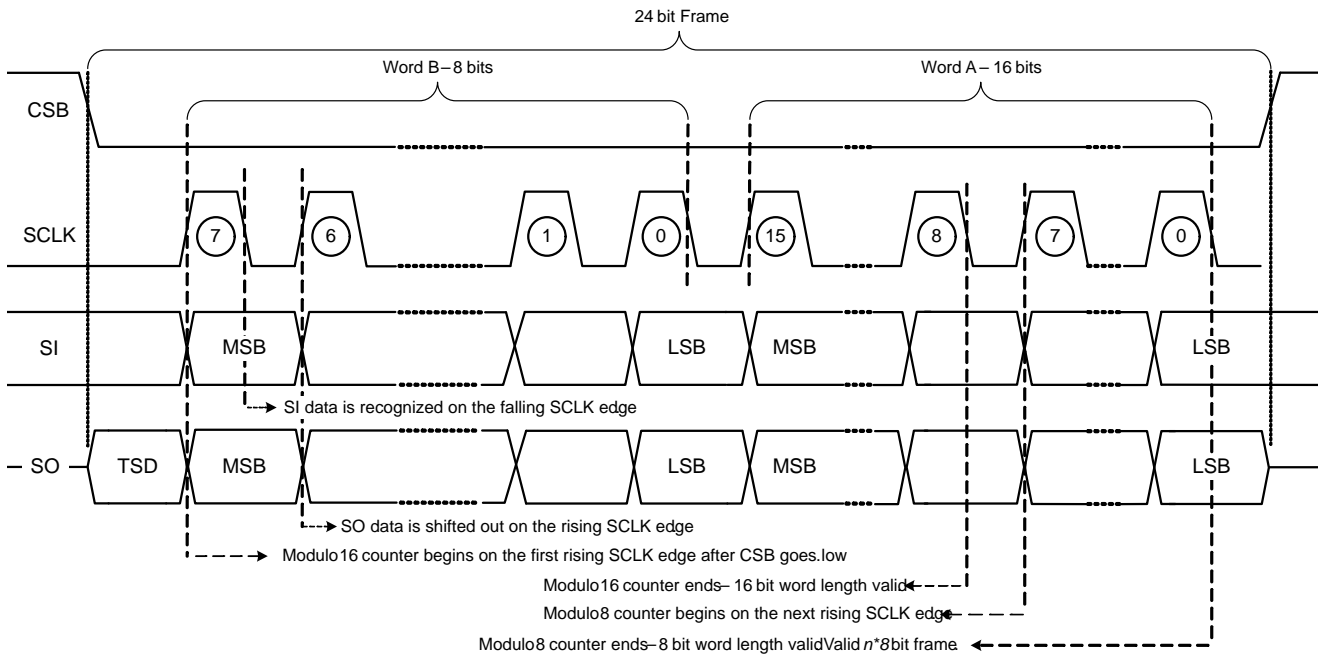

Figure 17. SPI Data Recognition and Frame Detection
Daisy chain communications between multiple of 8-bit SPI compatible IC's is possible by connection of the serial output pin (SO) to the input of the sequential IC (SI). The clock phase and clock polarity respect to the data must be the same for all the devices on the chain. Figure 16 illustrates the hardware configuration of NCV7728 daisy chained with a  $n \times 8$  bit (ie  $n = 2$ ; 16 bit) SPI device. The progression of data from the MCU through the sequential devices is also shown. Strict adherence to the frame format illustrated in Figure 17 is required for the proper serial daisy chain operations.